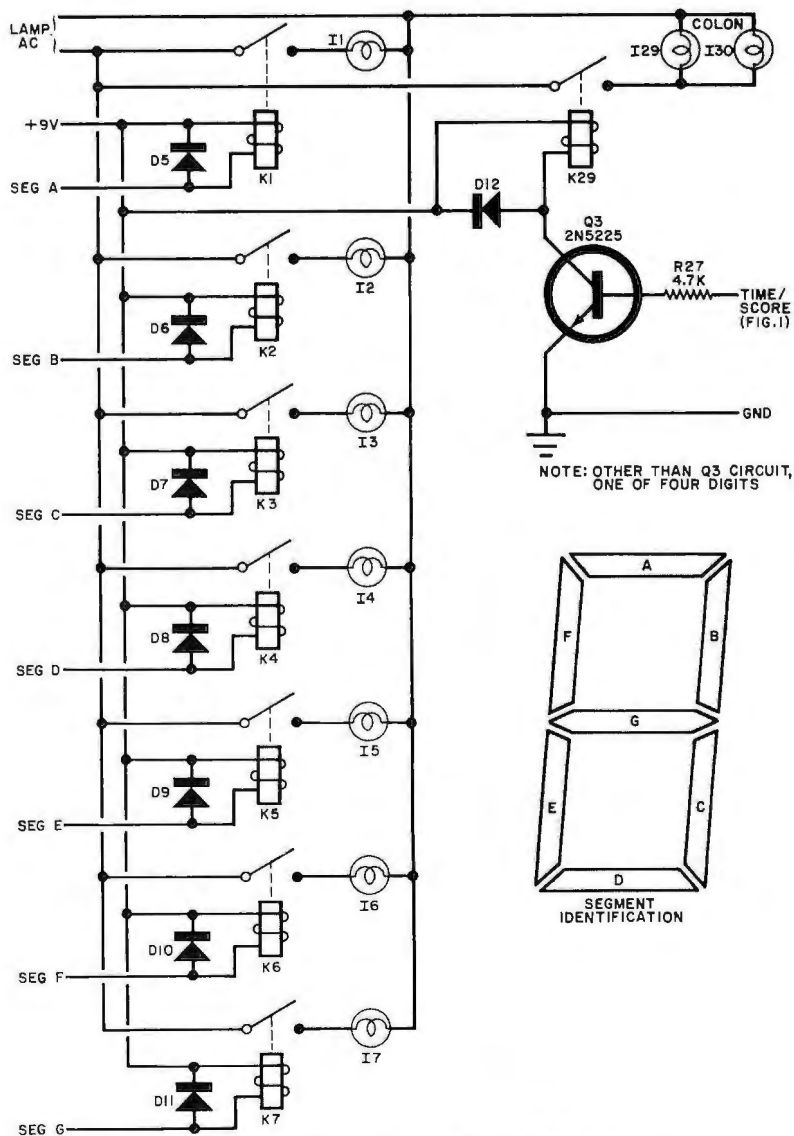

Fig. 6. There is one relay board for each digit in display. Relay circuit for colon display is on only one board.
**Relay Board.** The outputs of the BCD-to-seven-segment decoders (IC14, IC19, IC5, and IC6) are connected to their respective reed relay coils shown in Fig. 6. Other than the colon circuit, the reed-relay circuits are duplicated for each digit on the display. One side of each relay coil is connected to the nine-volt supply and the other to the decoder output. The diode across each coil eliminates the inductive spike that is generated when the segment drive voltage is removed. The switching is arranged so that each 117-volt segment lamp is placed in the circuit as its reed relay operates.
**Construction.** The electronic circuits can be wired on perforated boards, using sockets for the IC's. No particular arrangement is required. The circuits can be grouped on boards as shown in the schematics, but separate boards will be required for each relay system (Fig. 6). (Only one colon circuit is needed.) In the prototype, most of the circuits, including two sets of segment lamp drivers, were assembled in one aluminum box (12" x 17" x 3") with the other two segment driver
Pegboard was used to mount the lights and provide ventilation. After cutting the board to size, it was painted glossy white (or silver) to add brightness to the lamps. A 7½-watt lamp socket was mounted at the center of each segment and wired as shown in Fig. 6. Pressboard or sheet aluminum was then used to separate